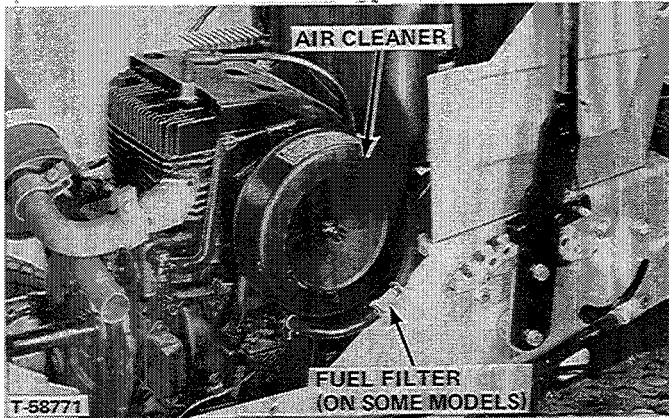

FIGURE 14
2. Fuel filter should be replaced every 100 hours of operation or once a year (Figure 14). On some Models the fuel filter is in the fuel tank.
#### AIR CLEANER AND PRECLEANER (Figures 14 and 15) (10 H.P., 12 H.P. and 16 H.P. Tractors only)